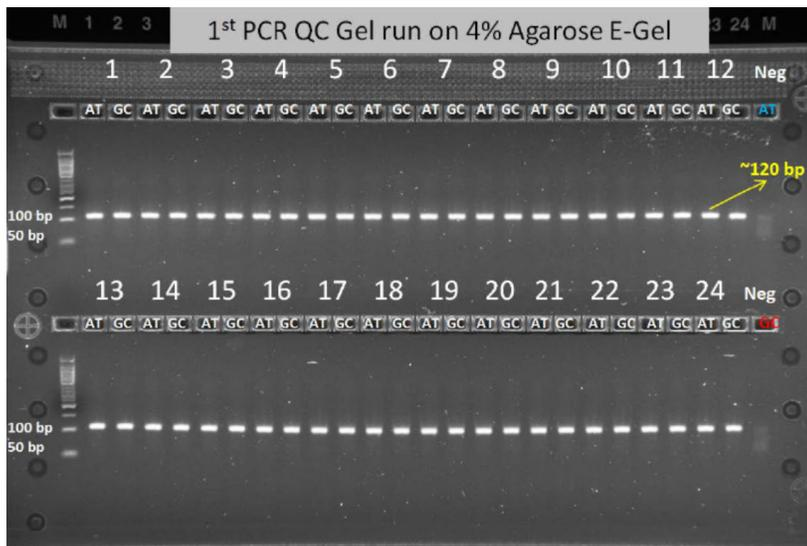
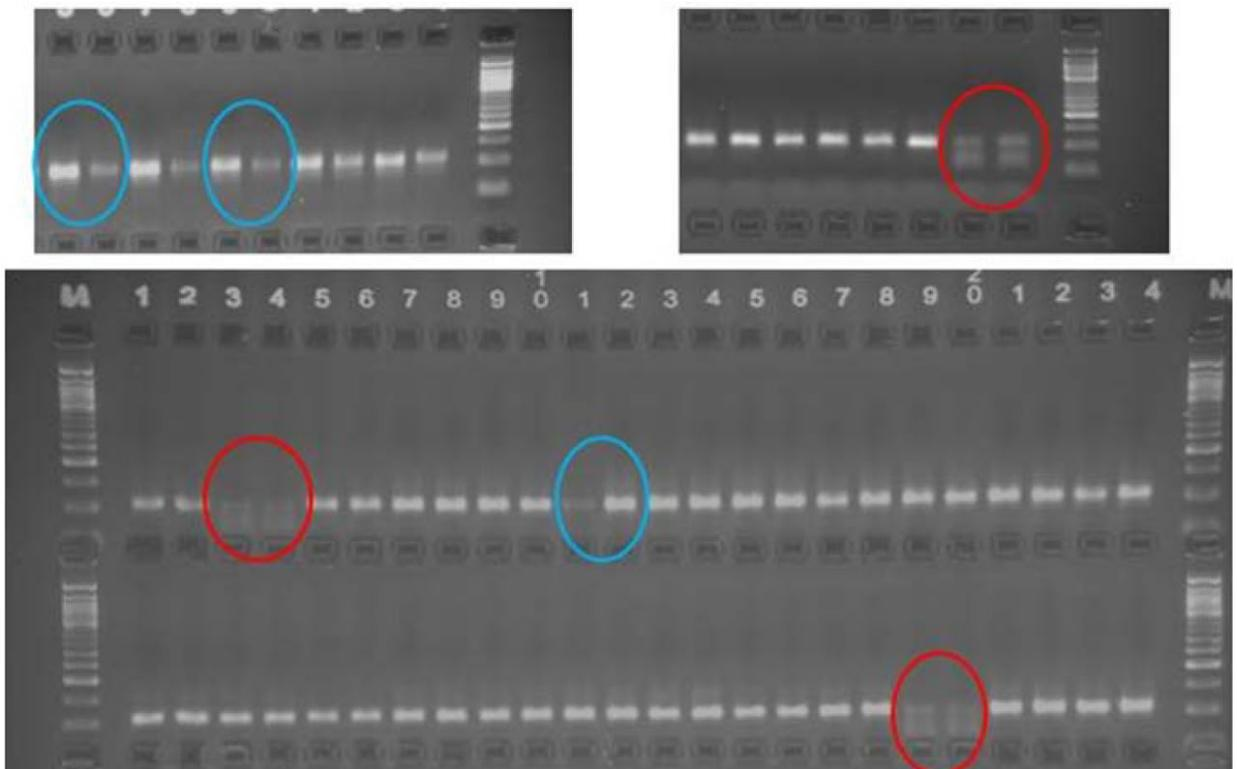

Figure 20 Example of a successful First QC Gel.
Figure 21 An example of faint or no PCR product visible on the First QC Gel image.
- a. The 1st PCR product sample wells have a single band at approximately 120 bp. This indicates that the steps leading up to and including the 1st PCR reaction were successful. (Figure 20.)
- b. The Negative Control does not have a smear. It will have a band for the primer dimer. This indicates that no sample or cross contamination has occurred. (Figure 20.)
Gel pattern: Faint or no PCR product visible on the First QC Gel image in the AT or GC channel for a given sample. (Figure 21, blue circles.)
Gel pattern: Faint or no PCR product visible on the First QC Gel in both the AT and GC channels for a given sample. (Figure 21, red circles.)
If the First QC Gel image matches Figure 20, proceed to the following step. (“Complete the OncoScan 2nd PCR thermal cycler protocol” on page 77.)
If the First QC Gel image does not match Figure 20, or looks like Figure 21, **STOP!** See Appendix F, “Troubleshooting the OncoScan™ CNV Plus Assay”.